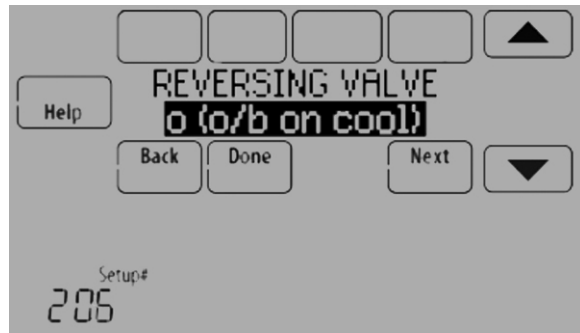

Fig. 111.
4. Select the Reversing Valve. See Fig. 111.